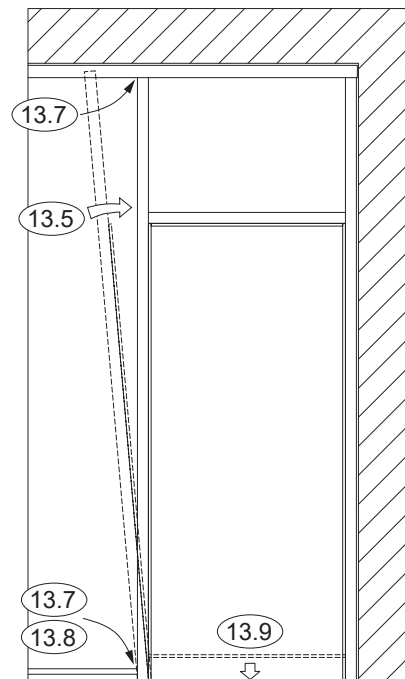

Figure 13.5
13.5: Assemble left door jamb. See **Figure 13.5**.